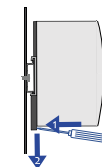

Fig. 1-2: Demounting
- ⇒ Insert a screwdriver into the lower tab and press the tab down to unlock, see Fig. 1-2.